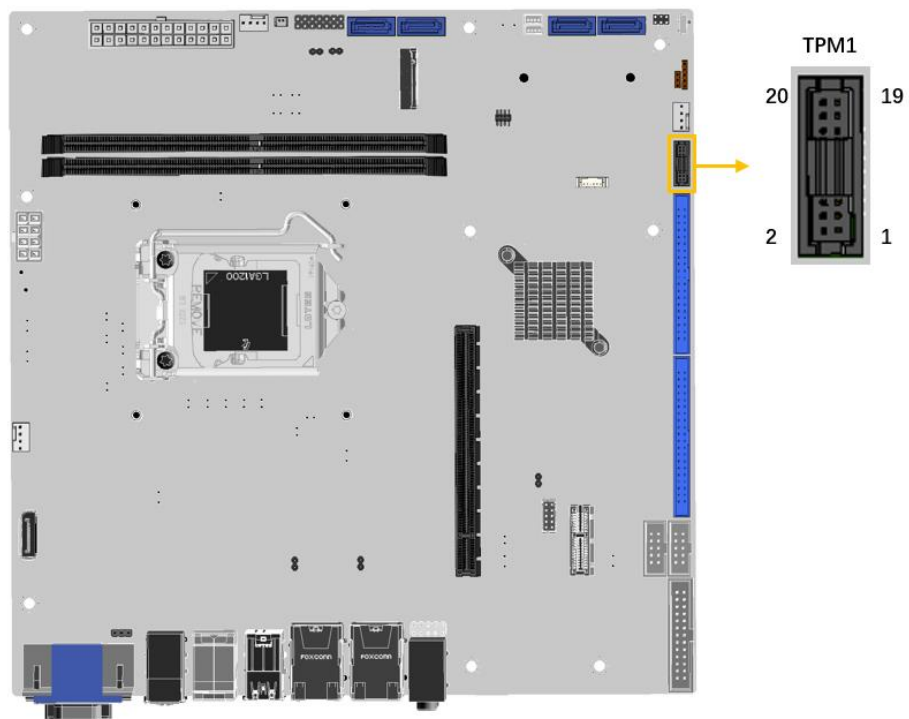

Figure 3-23: Trusted Platform Module Connector Location
- CN Location:** See Figure 3-23